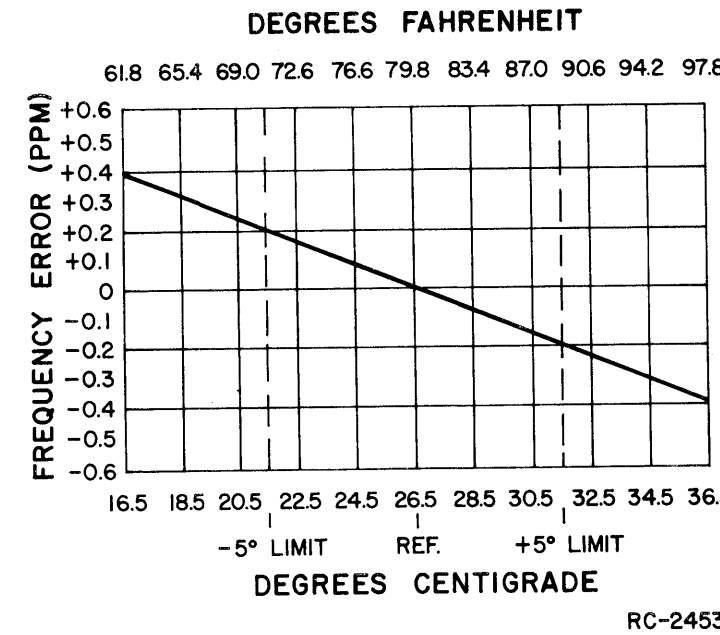

Figure 5 - Frequency Characteristics Vs. Temperature
To set ICOM frequency using "beat frequency" method, the temperature should be at 26.5°C (79.8°F). If the temperature is not 26.5°C, then offset the "ON FREQUENCY" signal (at the receivers input), as a function of actual temperature, by the frequency ERROR FACTOR (in PPM) shown in Figure 5.
- Maintain the radio at 26.5°C (±10°C) and offset the oscillator, as a function actual temperature, by the frequency error factor shown in Figure 5.
B. To hold setting error to ±0.35 PPM (which is considered reasonable for 2 PPM ICOMs): Maintain the unit at 26.5°C (±5°C) and offset the oscillator, as a function of actual temperature, by the frequency error factor shown in Figure 5.